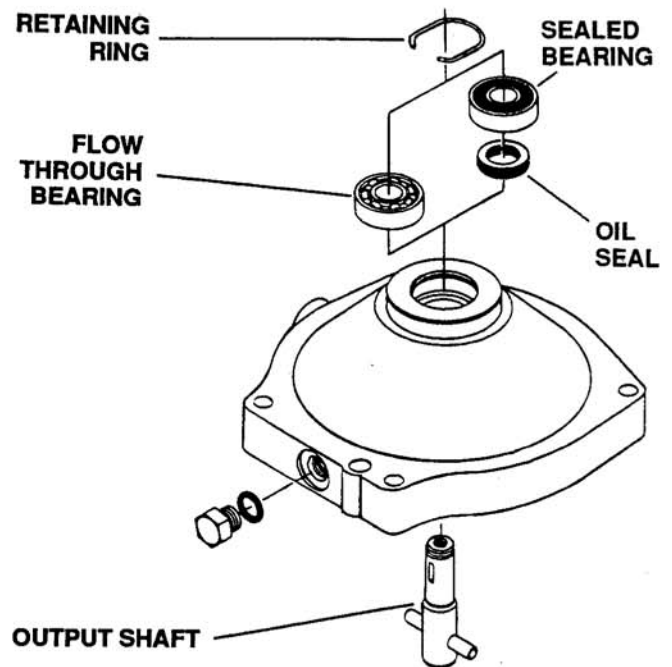

Figure 6-136. Assembly of Bearings, Oil Seal, Retainer Ring and Body
28. When applicable, install oil seal in body with the rubber lip toward the counterbore in the body. Press or tap the seal into the bottom position in the counterbore. See Figure 6-136.